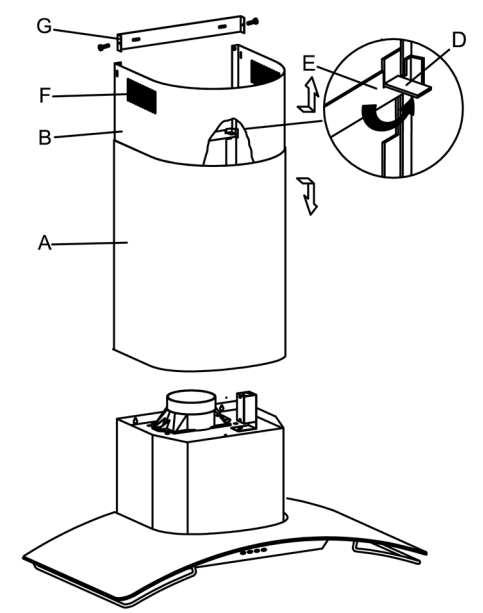

Fig.2
- Mark the wall at the location of support E (Figure 2) according to the heights and specifications shown on the attached jig.
- Place tube A with the extendible part B hanging on the inside, making sure that flange D is correctly lodged in the support E (Fig. 2).